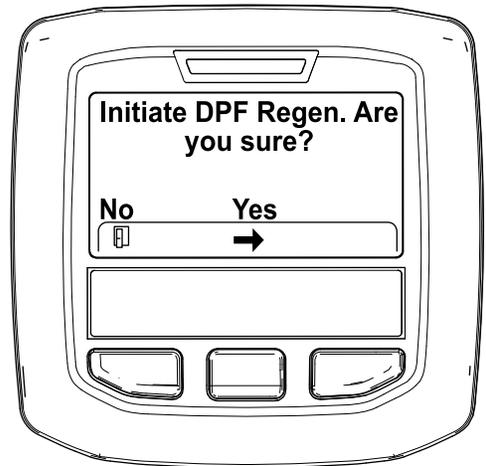

Figure 32
4. When the “Initiate DPF Regen. Are you sure?” message displays, press the center button (Figure 32).